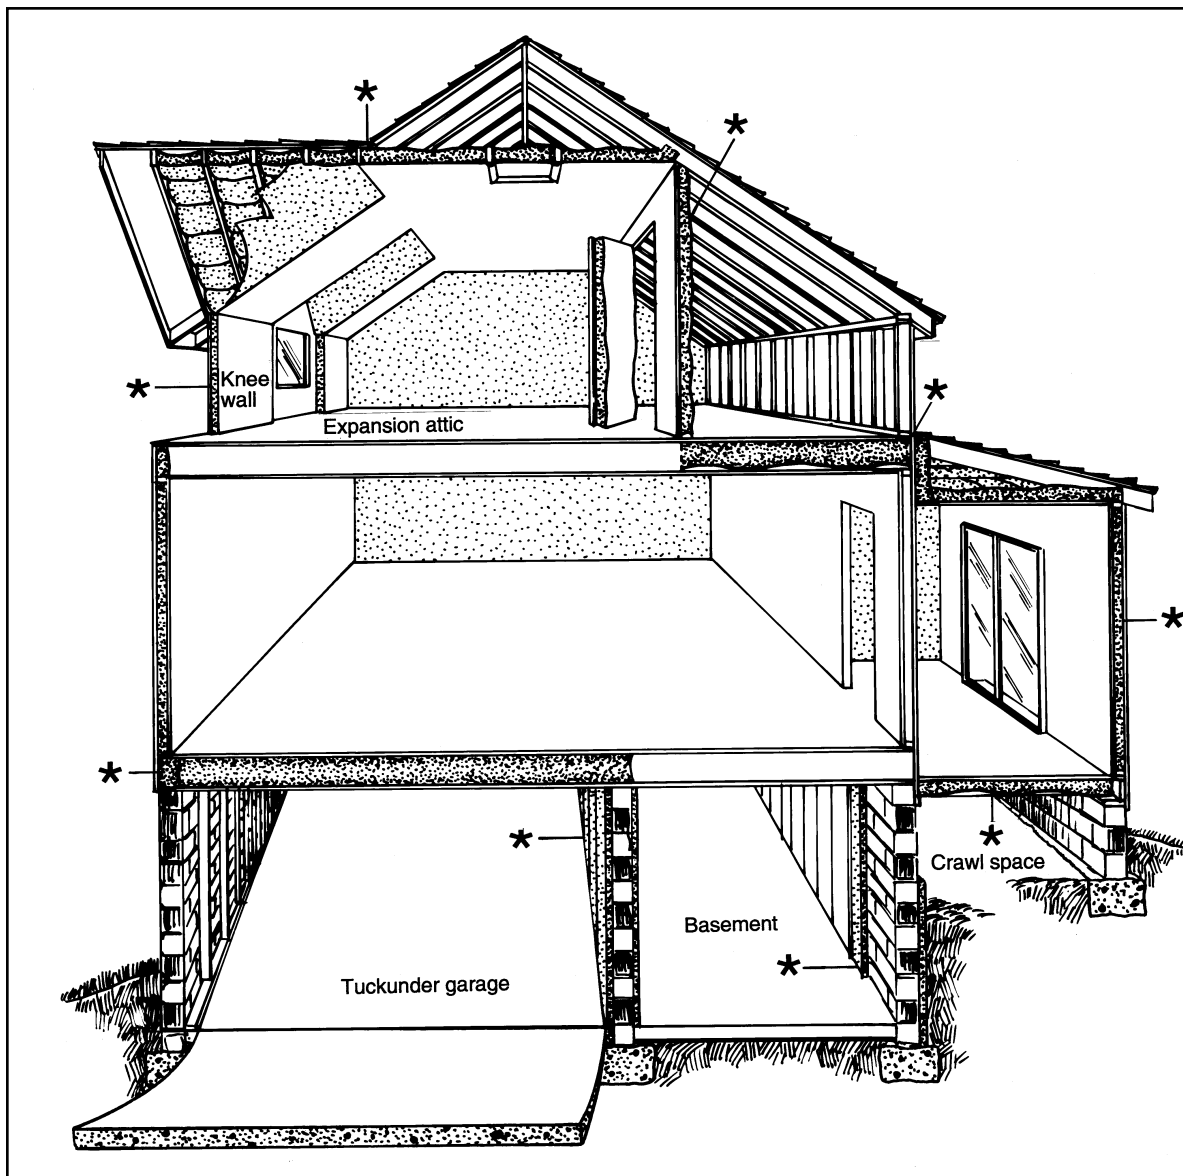

Figure 1:
How do we improve home energy efficiency? Increasing insulation is perhaps the first answer that comes to mind, but it is only part of the answer. Improving our home's energy efficiency involves an understanding of the “thermal envelope,” that barrier to heat loss (and summer heat gain) that protects and separates the indoor living space from the outdoor climate. (See Figure 1.) Insulation is the heart of the thermal envelope, but it is only one part of an entire system that also includes siding, sheathing, sheetrock, and other materials that prevent heat loss through air leaks and keep wind and moisture from penetrating the thermal envelope, reducing the effectiveness of the insulation.
Figure 1 shows a home and indicates where insulation would be placed to create a barrier to heat loss.
**Checking current insulation level.** To determine if you need more insulation, you must first find out how much insulation you have. One way to do this is to check for yourself. Look at Figure 1. You will want to see if you have insulation (and how much) in these key locations – the basement walls, exterior walls, floors above cold spaces, and ceilings below cold spaces. In unfinished areas such as attics, where structural frame elements are exposed, you can see the type of insulation and measure its thickness.
In unfinished attics, insulation should be put between the floor joists to seal off living spaces below. In finished attics with or without dormers, insulation should go between the studs of knee walls, between the studs and rafters of exterior walls, and in ceilings with cold spaces above (Figure 1).
**Crawl spaces.** Often one or more rooms - in some cases the whole house - will not rest on a basement foundation but have only a crawl space underneath. Any part of the house that is heated should be included in the thermal envelope and should be separated from unheated space by an insulation barrier (see Figure 1).
**Tuckunder garages** (see Figure 1) also need special consideration. The usual and best practice is to separate the tuckunder garage from the thermal envelope, insulating the floor above the garage and wall(s) separating the garage from the basement. Duct work is often found in the ceiling above the tuckunder garage. If this is the case in your house, be sure to seal the duct work (using mastic coating rather than duct tape). Blown-in insulation is the best choice for this area because